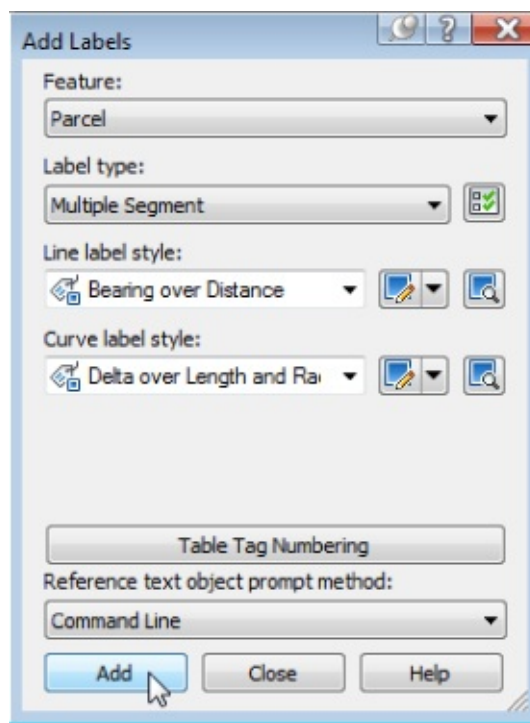

Figure 5.59 The Add Labels dialog
3. From the drop-down menus in the Add Labels dialog, select Parcel, Multiple Segment, Bearing Over Distance (from the Parcel Line Label Style section), and Delta Over Length And Radius in the Feature, Label Type, Line Label Style, and Curve Label Style selection boxes, respectively, as shown in Figure 5.59.